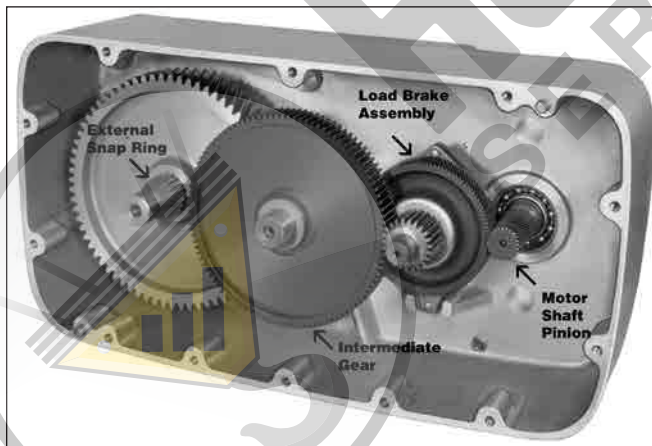

Figure 5-3. View of Gearcase - Cover Removed
- The mechanical load brake and gearing may be inspected and serviced with hoist suspended. To do so, remove lower block and wire rope, drain oil from gearcase, remove 12 hex head bolts and lockwashers holding gearcase cover, and pull cover from gearcase (Figure 5-3).